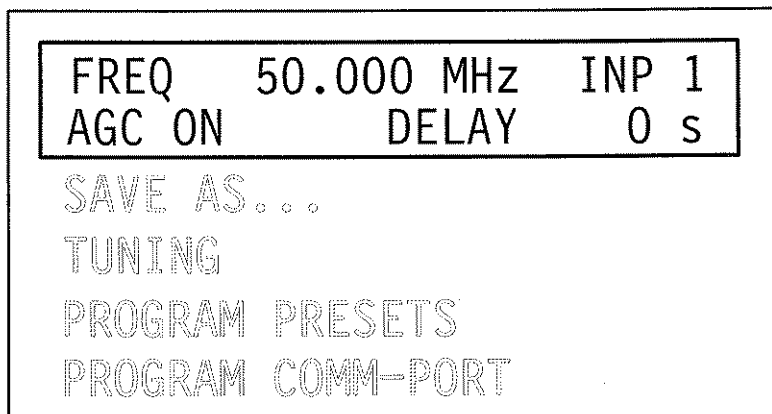

Figure 2-5: Tuning by Frequency
2. For frequency tuning, use the up or down key to move through the menu until FREQ is flashing. The display should be similar to Figure 2-5. For channel tuning, proceed to step 3.
1. Press the up or down key to sequence through the menu until INP is flashing. The display will be similar to Figure 2-5. (The first line may vary, depending on the tuning selection.)
2. To change the AGC setting, press the up or down key to move through the menu until AGC is flashing. The display will be similar to Figure 2-5.